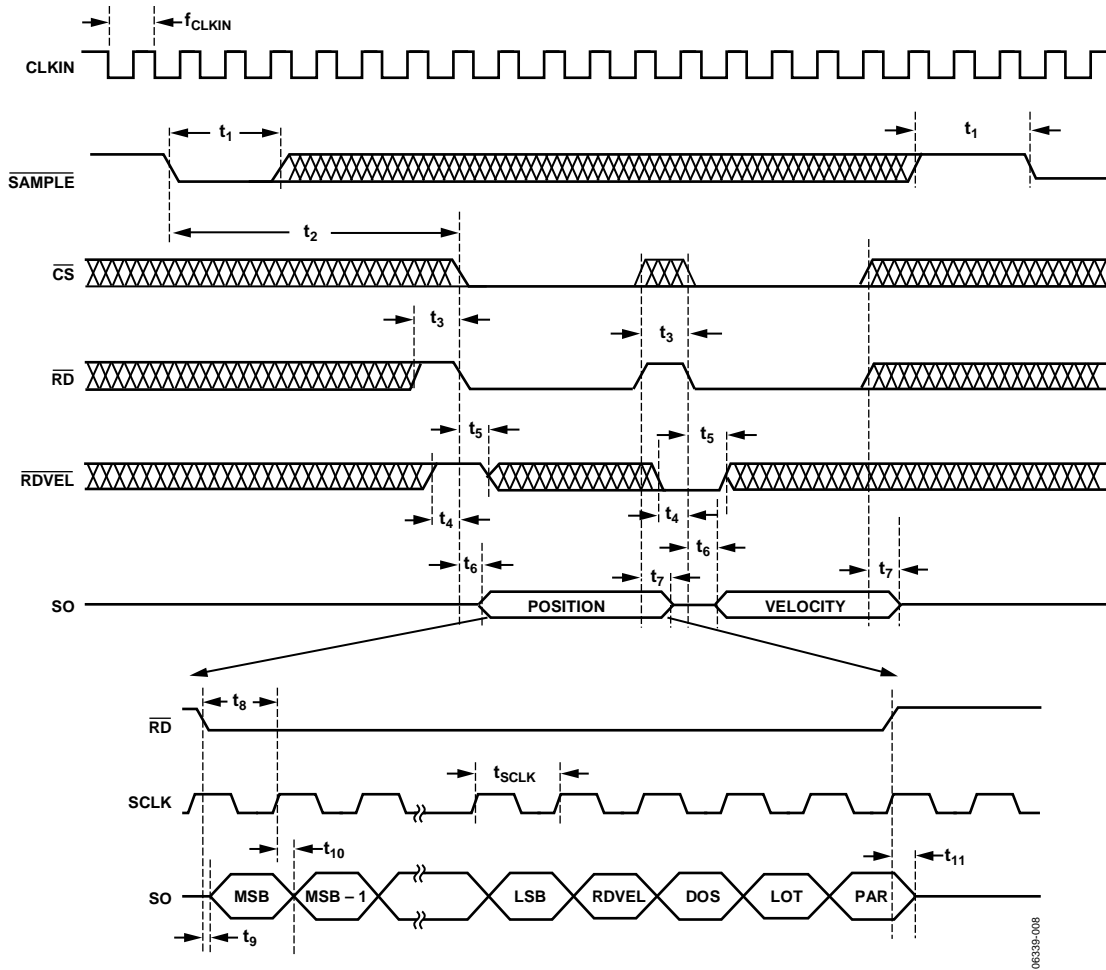

Figure 8. Serial Port Read Timing
The angular position and velocity are available on the AD2S1205 in two 12-bit registers. These registers can be accessed via a 3-wire serial interface (SO, \overline{RD} , and SCLK) that operates at clock rates of up to 25 MHz and is compatible with SPI and DSP interface standards. The serial interface is selected by holding the \overline{SOE} pin low. Data from the position and velocity integrators are first transferred to the position and velocity registers using the \overline{SAMPLE} pin. The \overline{RDVEL} pin selects whether data is transferred from the position or velocity register to the output register, and the \overline{CS} pin must be held low to transfer data from the selected register to the output register. Finally, the \overline{RD} input is used to read the data that is clocked out of the output register and is available on the serial output pin (SO). When the serial interface is selected, DB11 is used as the serial output pin (SO), DB10 is used as the serial clock input (SCLK), and Pin DB0 to Pin DB9 are placed into the high impedance state. The timing requirements for the read cycle are described in Figure 8.
The output shift register is 16 bits wide. Data is clocked out of the device as a 16-bit word by the serial clock input (SCLK). The timing diagram for this operation is shown in Figure 8. The 16-bit word consists of 12 bits of angular data (position or velocity, depending on \overline{RDVEL} input), one \overline{RDVEL} status bit, and three status bits (a parity bit, a degradation of signal bit, and a loss of tracking bit). Data is clocked out MSB first from the SO pin, beginning with DB15. DB15 through DB4 correspond to the angular information. The angular position data format is unsigned binary, with all 0s corresponding to 0° and all 1s corresponding to $360^\circ - 1$ LSB. The angular velocity data format is twos complement, with the MSB representing the rotation direction. DB3 is the \overline{RDVEL} status bit, with a 1 indicating position and a 0 indicating velocity. DB2 is DOS, the degradation of signal flag (refer to the Fault Detection Circuit section). Bit 1 is LOT, the loss of tracking flag (refer to the Fault Detection Circuit section). Bit 0 is PAR, the parity bit. The position and velocity data are in odd parity format, and the data readback always contains an odd number of logic highs (1s).